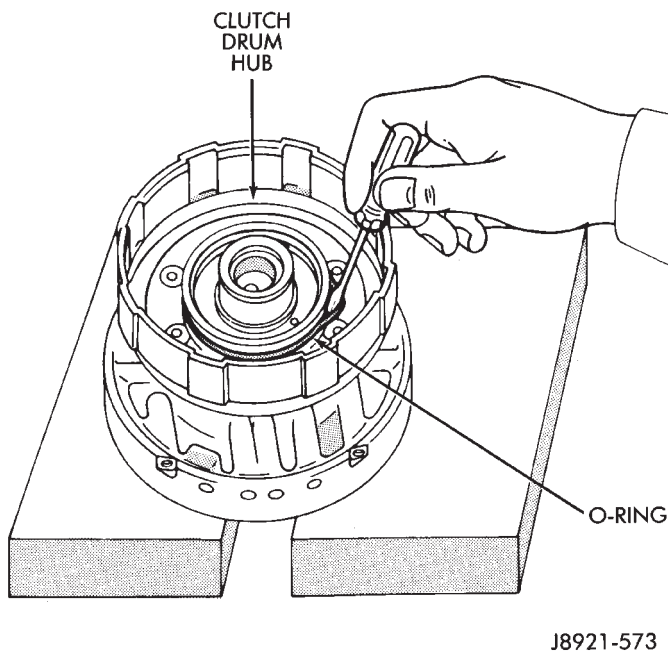

Fig. 7 Removing/Installing Clutch Drum O-Ring
(5) Lubricate and install new O-ring on clutch drum hub (Fig. 7).
(6) Lubricate and install new O-rings on clutch piston and install piston in drum.